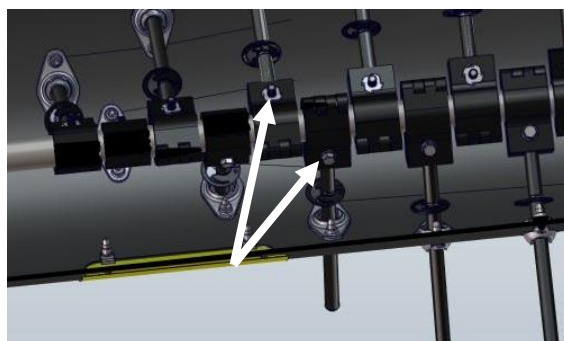

Figure 13
9. Remove the fingers by removing the lower retaining bolts. This will allow the fingers and the clamps to be removed. Figure 13